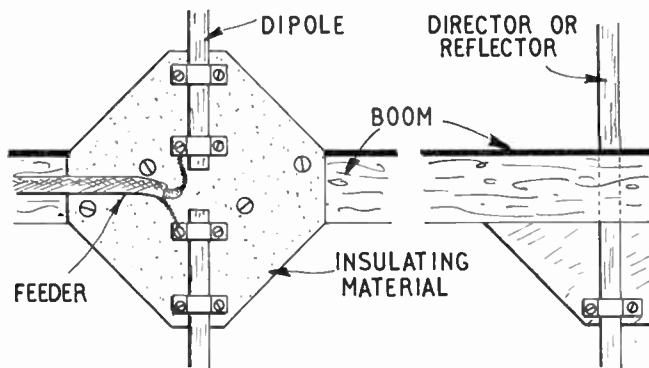
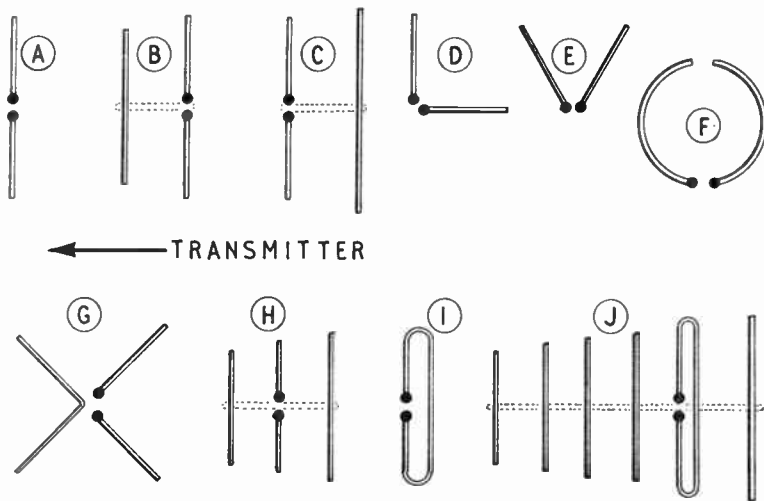
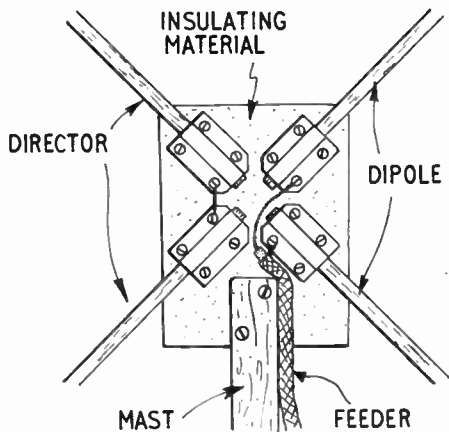
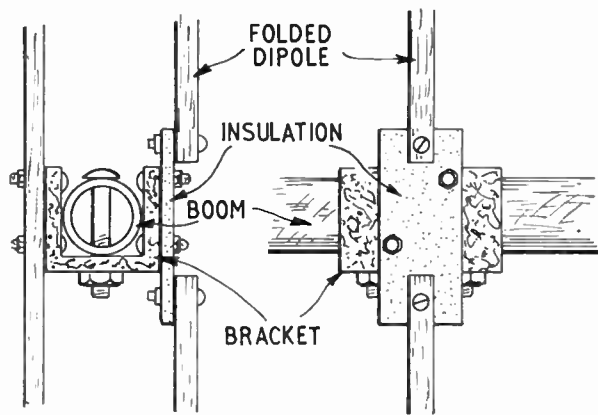

Fig. 2—Mounting elements on a wooden boom
Fig. 1—Popular types of T.V. and V.H.F. aerials
Fig. 3—Centre of X-type aerial
Fig. 4—Mounting of folded dipole
The aerial A in Fig. 1 can be made by fixing the two elements to a piece of insulating material, as in Fig. 2. A piece of perspex or other reasonably strong material about 6 in. by 6 in. will do for this. Clips can be bent up from scrap aluminium sheet, which is easily cut with shears or a hacksaw. Corrosion will probably arise in due course if dissimilar metals are used for clips and elements, so it is wise to keep to the same kind of material, as far as possible. Small nuts and bolts secure the clips to the insulation.
An aerial like that at A in Fig. 1 will only need a boom in one direction, for mounting purposes. This can be 1 in. by 2 in. knot-free hardwood. If the aerial is outside, the boom should be at least as long as one dipole element, if possible. It may be screwed to a bracket mounted on the house.
Aerials like those at B and C in Fig. 1 require a director or reflector. This can be fitted in a groove cut at one side of the boom, being clamped in position by a triangular piece of wood, as in Fig. 2. The wood carries a clip, to steady the element. The boom is of such a length as to bring dipole and director or reflector elements the correct distance apart. With an H type aerial, the feeder travels along the boom, then down the mast, which is central between the elements.
The aerial at H in Fig. 1 will need a boom long enough for all three sets of elements, and at least 1½ in. by 2 in. With any outdoor aerial, the whole construction and mounting must be
This type is shown in Fig. 1 at G, and may be constructed as in Fig. 3. Suitable clips are most easily bent in a vice, by forming the aluminium round a piece of wood, or other object, of the same diameter as the aerial rods. The two elements of the director are connected together. One piece of tube,
This aerial is shown at E in Fig. 1, and is very easily made. A semicircle of insulating material can have two clips bolted to it, in the same positions as the two top clips in Fig. 3, and these will hold the elements. A fairly heavy base, cut from wood, will hold the aerial up. It is sometimes placed on top of the receiver.
The aerials D and F in Fig. 1 can be made in the same way. One feeder conductor is connected to each element.
This element is illustrated at I in Fig. 1, and used in aerials such as that at J. Fig. 4 shows a method of construction, where the dipole is bolted to a bracket, and the folded ends are secured to a strip of perspex or similar insulating
material. The bend is such that the curve at the end of the element, I in Fig. 1, is about 3 in. in diameter.
In Fig. 4, a metal boom is shown. Reflector and directors (J) can be fitted by drilling the boom to be a tight fit for the elements, then inserting a small bolt at right angles through boom and element. Joints in metal construction out of doors should be as tight as possible. Bitumen or other out-door paint will help seal the joints against corrosion.
The length, in inches, for the dipole element of the aerials, can be found by dividing 5540 by the frequency in mc. The reflector element is generally 5 per cent longer than the dipole. The first director (H Fig. 1) is about 5 per cent shorter than the dipole.
Aerials like that at E in Fig. 1 often have sliding elements, one tube fitting in another. The exact length can then be adjusted for best results.
- a, type of aerial in Fig. 1.